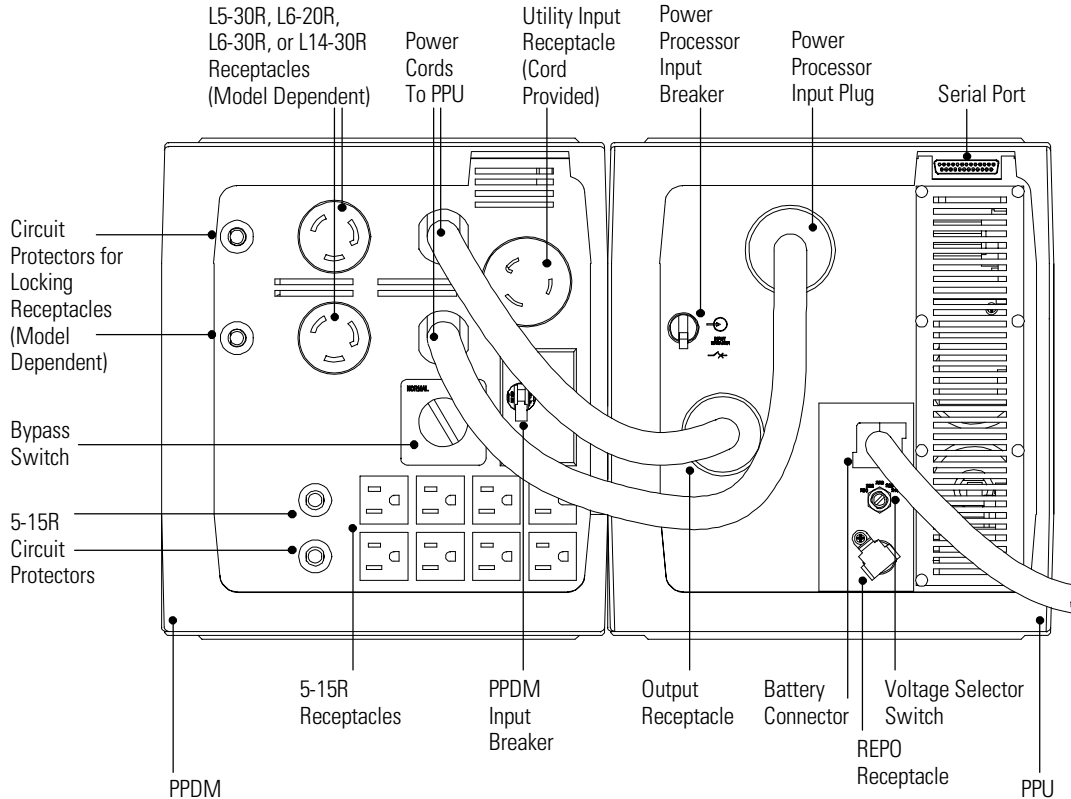

Figure 24. UPS with PPDM Rear Panel Connections
1. Turn the Bypass switch on the PPDM to the BYPASS position (see Figure 24). The PPDM is now powering your equipment from utility power.
3. Switch the PPU input breaker to the OFF (O) position. The UPS enters Battery mode for several seconds. The  indicator turns off and the UPS shuts down.
5. Switch the circuit breaker on all battery cabinets to the OFF (O) position.
4. Plug the input and output cords of the PPDM into the power connectors on the PPU as shown in Figure 24 on page 55.